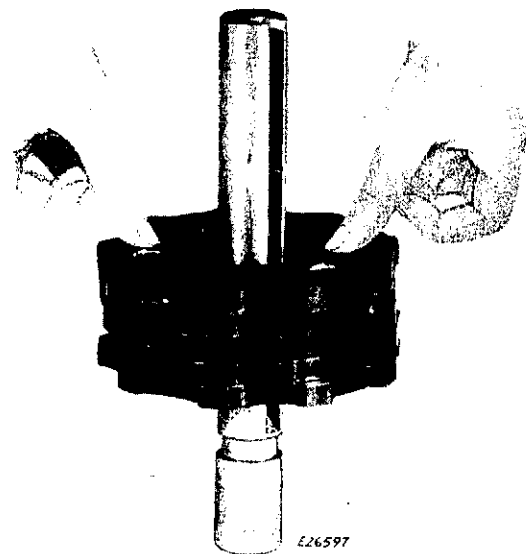
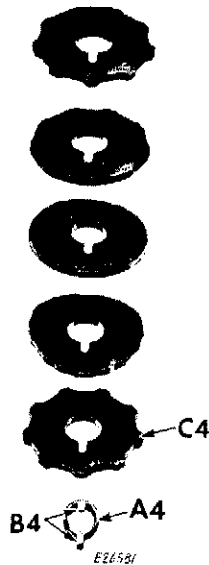

Fig. 255B
Fig. 256
2. Press with thumbs against discs astride the locating tool and press down, as shown in Fig. 255B.
5. Place the disc bushing **A4**, Fig. 256 in an upright position, with keys **B4** facing up. Then take one disc **C4** at a time and with the STITCH PATTERN DESIGN FACING DOWN, align the key slot with the key on the bushing and press on, as shown in Fig. 255B. This procedure is the same for the remaining discs.